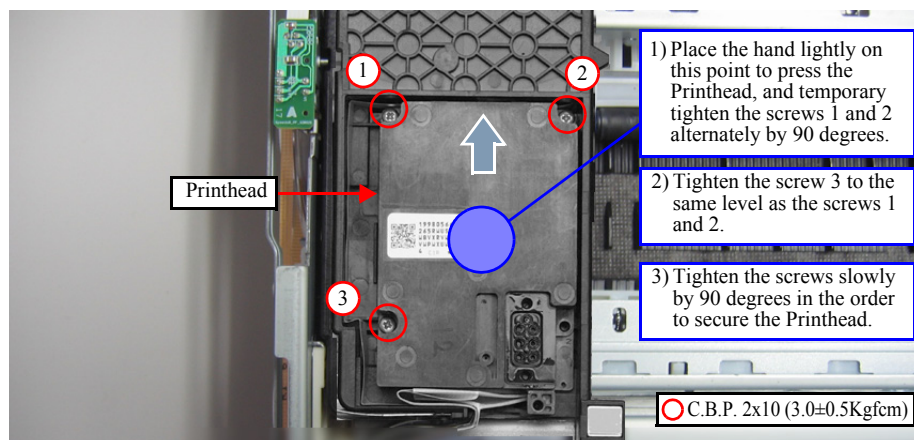

Figure 4-60. Assembling the Printhead (1)
- 3-1. Place the hand on the center of the Printhead, and align the screws (x3) with the screw holes to temporary tighten the screws 1 and 2 alternately by 90 degrees slowly while pressing the Printhead in the direction of the arrow shown in Fig. 4-60.
- 3-3. Tighten the screws slowly by 90 degrees in the order shown in Fig. 4-60 to secure the Printhead.